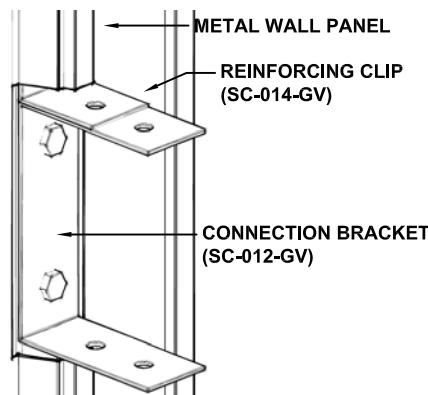

FIGURE 6
2. **Figure 6** - Use your selected holes in the Vertical Channel to drill pilot holes through your metal wall panel. If the pilot hole lands on or near a panel rib, cut a (+/-) 2" x 6" hole to allow the bracket to penetrate through the panel as shown (Figure 6). **ALWAYS INSTALL THE TOP REINFORCING CLIP (SC-014-GV).**